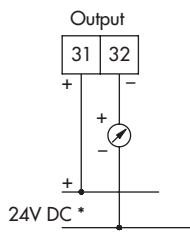

Fig. 5-2: Electrical connection
- ➔ Connect the wires of the converter to the terminals (see Fig. 5-2).
- ➔ Connect the wires to the terminals 11 (+) and 12 (–) using suitable cable glands or connectors. See Fig. 5-2.